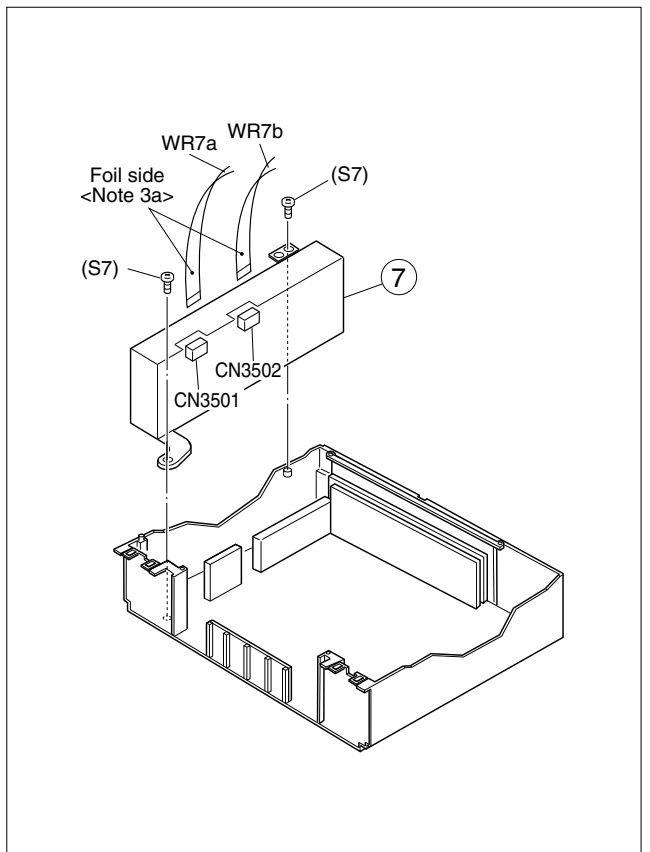

Fig. D7
- (8) Remove the SW/Display board assembly and REC safety board assembly. (Refer to page 1-3 of 1.3 DISASSEMBLY/ASSEMBLY METHOD. Take care not to pull the flat wires (Fig. D7) from CN7001 and CN7191.)